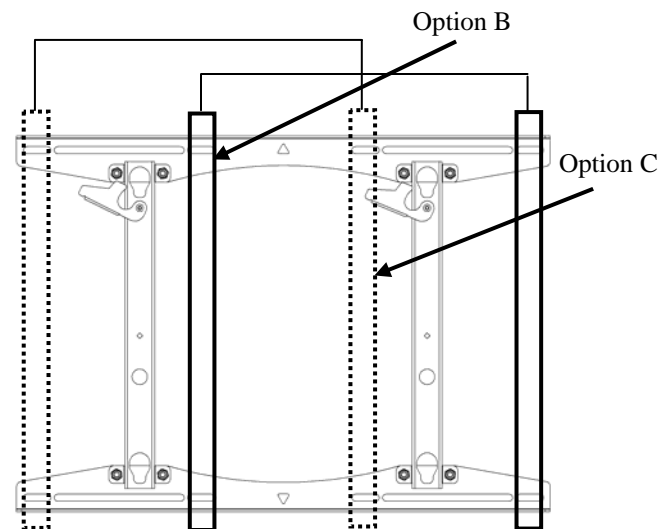

Figure 6. Mounting Holes – 16" Apart on Center (Options B and C)
- **Option B.** Install four 5/16" x 2 1/2" lag bolts and four 5/16" washers (two top and two bottom) into the mounting holes that are *right of center* on dual wood studs 16" apart as shown in Figure 6.
- **Option C.** Install four 5/16" x 2 1/2" lag bolts and four 5/16" washers (two top and two bottom) into the mounting holes that are *left of center* on dual wood studs 16" apart on center as shown in Figure 6.